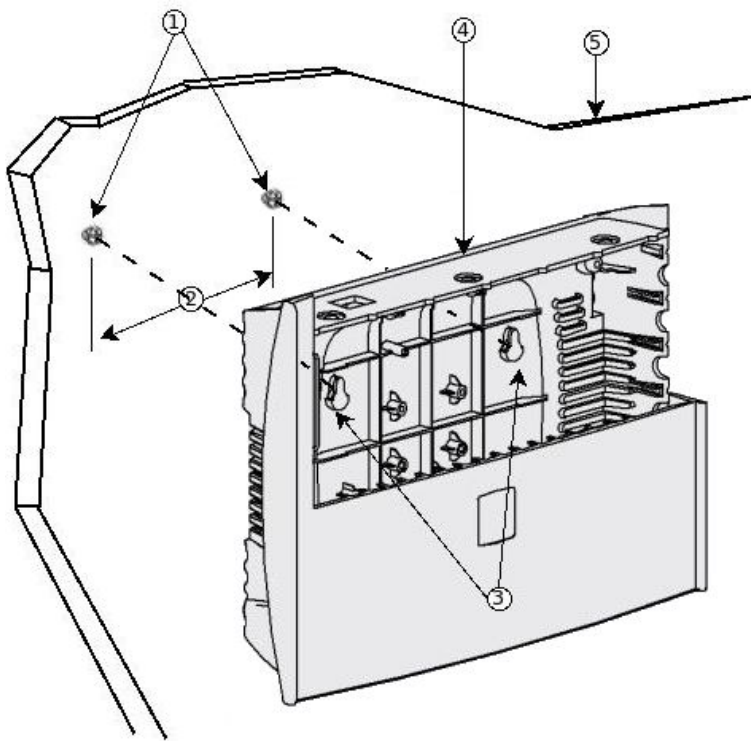

Fig. 9: Teldat Connect 104V wall-mounting features
**Step 2:** Hang the router on the screws. (See Figure 9)